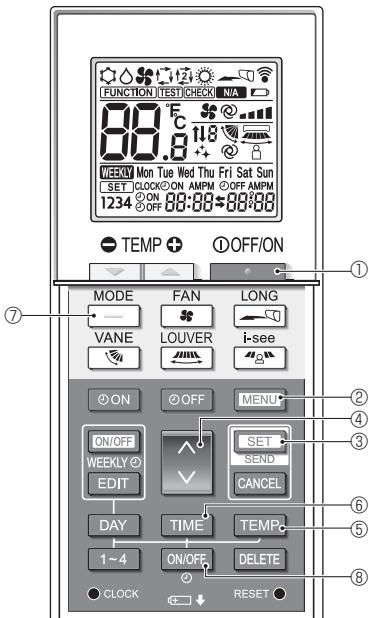

Fig. 6-5
1. Press the **TEMP** button ① to stop the air conditioner.
2. Press the **MENU** button ②.
- The Function setting screen will be displayed and the function No. Ⓐ will flash. (Fig. 6-5)
3. Check that function No. "1" is displayed, and then press the **SET** button ③.
- Press the **ON/OFF** button ⑧.
- Each time the **ON/OFF** button ⑧ is pressed, the setting switches between **on** and **off**.
- Press the **SET** button ③.
- The function No Ⓐ blinks (Fig. 6-5)
- Press the **MENU** button ②.